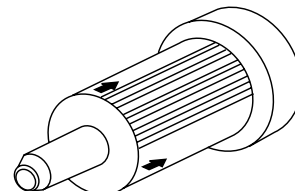

Figure 40. Fuel Filter
1. Replace the engine fuel filter (Figure 40) every year or 300 hours.